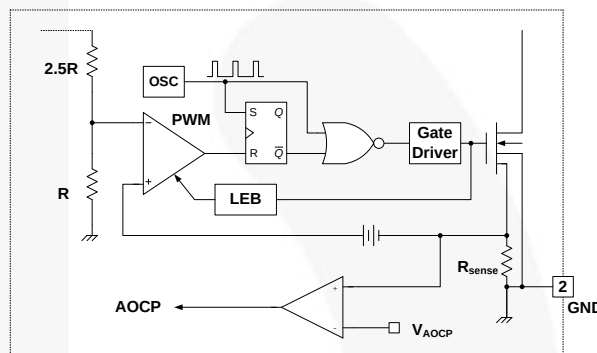

Figure 35. AOCP Block
**4.2 Abnormal Over Current Protection (AOCP):** When the secondary rectifier diodes or the transformer pins are shorted, a steep current with extremely high  $di/dt$  can flow through the SenseFET during the LEB time. Even though the FSCQ series has OLP (Overload Protection), it is not enough to protect the FSCQ series in that abnormal case, since severe current stress will be imposed on the SenseFET until the OLP triggers. The FSCQ series has an internal AOCP (Abnormal Over-Current Protection) circuit as shown in Figure 35. When the gate turn-on signal is applied to the power SenseFET, the AOCP block is enabled and monitors the current through the sensing resistor. The voltage across the resistor is then compared with a preset AOCP level. If the sensing resistor voltage is greater than the AOCP level, the set signal is applied to the latch, resulting in the shutdown of SMPS. This protection is implemented in the latch mode.